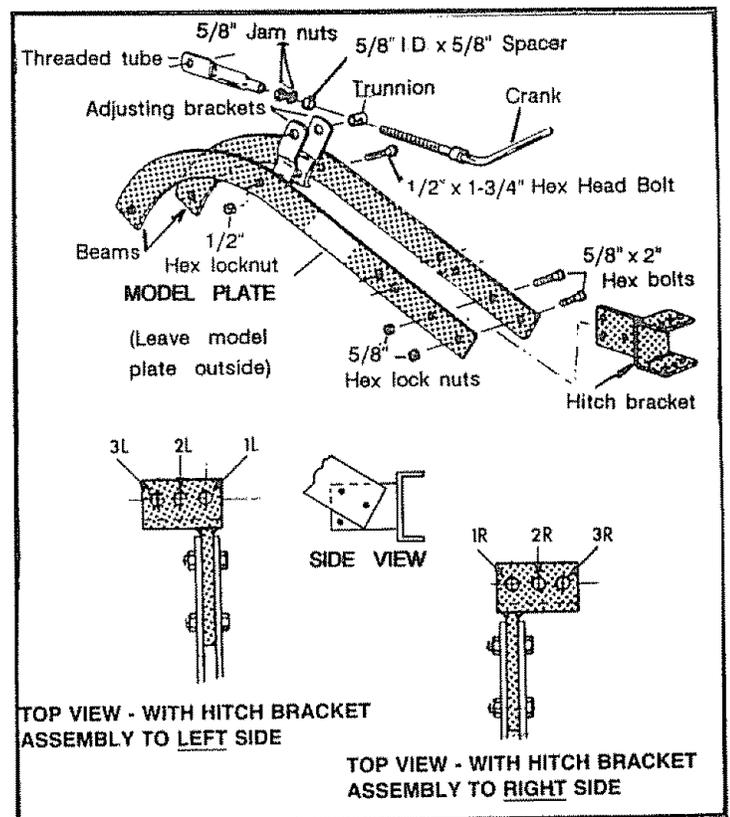

FIG. 1
Refer to Fig 1
- Mount the Plow to the Sleeve Hitch with the Hitch Pin furnished with the Hitch. Refer to Figure 1 and Table 1 to select the proper mounting hole.
- When plowing heavy clay soil or sod, it will help to reduce the width of the plow cut. This can be accomplished by hitching the plow one or two holes to the LEFT of the recommended setting. (Refer to Fig 1)